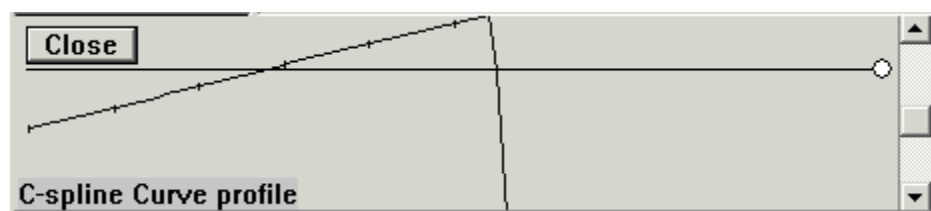

Fig. 39
- 11 In the curvature profile window, **click the up arrow of the scroll bar a few times** to zoom in on the display (Fig. 39).